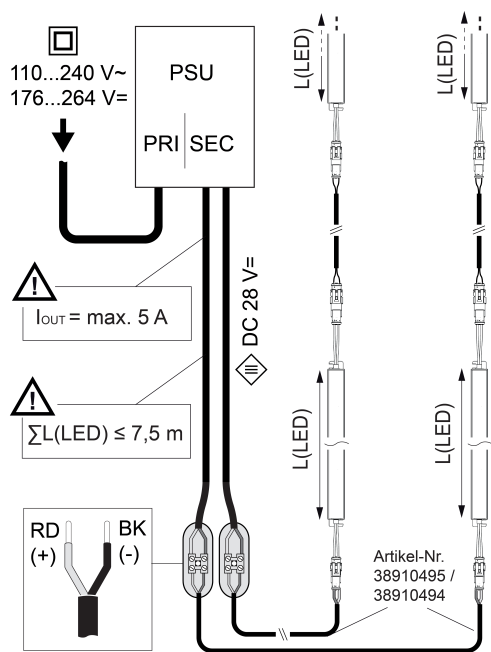

Figure 5: Connection diagram
- Connect the light inserts according to the connection diagram (Figure 5).